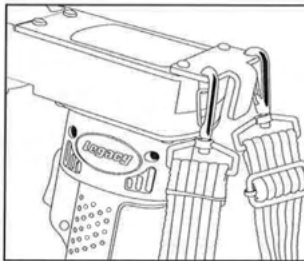

Figure 3
**SHOULDER STRAP (see Figure 3):**